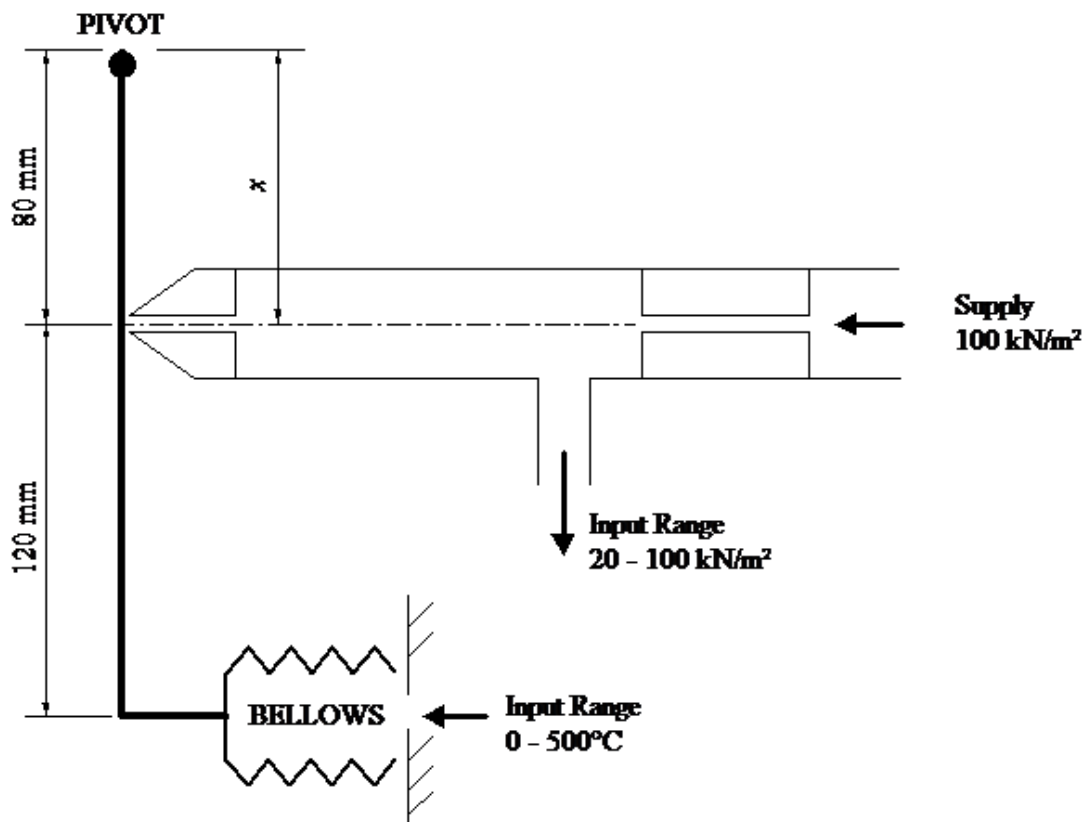

Fig Q4
4. A basic flapper/nozzle device is shown in Fig Q4. The pneumatic signal for the input bellows unit is proportional to the measured temperature within the range 0 - 500°. The output signal range is to be 20 - 100 kN/m².